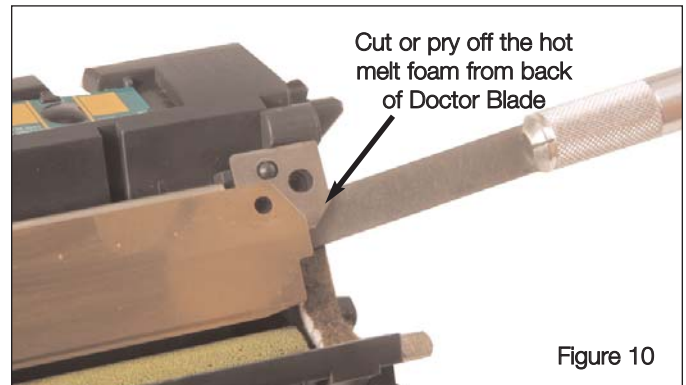

Figure 10
- b. Using a Foam Removal Tool (CSS-40) cut the adhesive and Hot Melt Foam from the back of the Doctor Blade. See Figure 10.